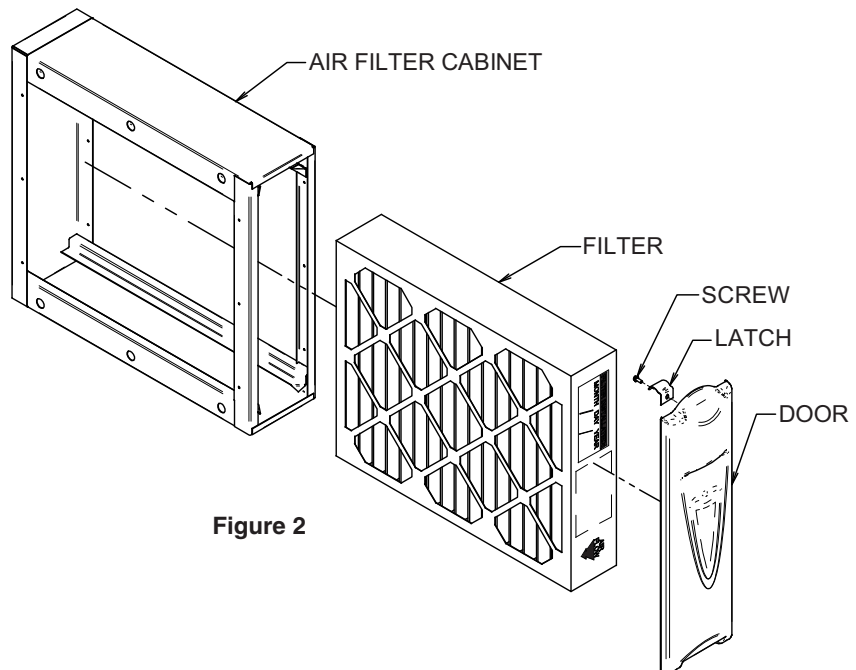

Figure 2
Not only is your air filter compartment easy to install, it is also easy to maintain. Its basic components, and their functions, are as follows: (See Figure 2)
1. Place the air filter compartment on the floor. Stand it upright with the door facing you (Figure 2). If a horizontal installation is being planned, lay the compartment on its side, this will help you to visualize the relative location of all parts.
7. With the air filter compartment installed, re-install 4" filter and door. (Figure 2)